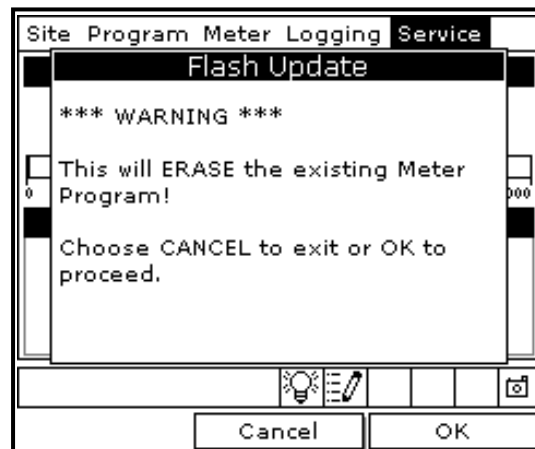

Figure 70: Flash Update Window
3. Use the arrow keys to scroll to *Flash Update* and press **[ENTER]**. Screen appears similar to *Figure 70* on page 84.
4. Press **[F3]** (OK) to confirm that you wish to erase the program.
5. The meter asks for confirmation. Press **[F3]** (OK) to continue with the update.